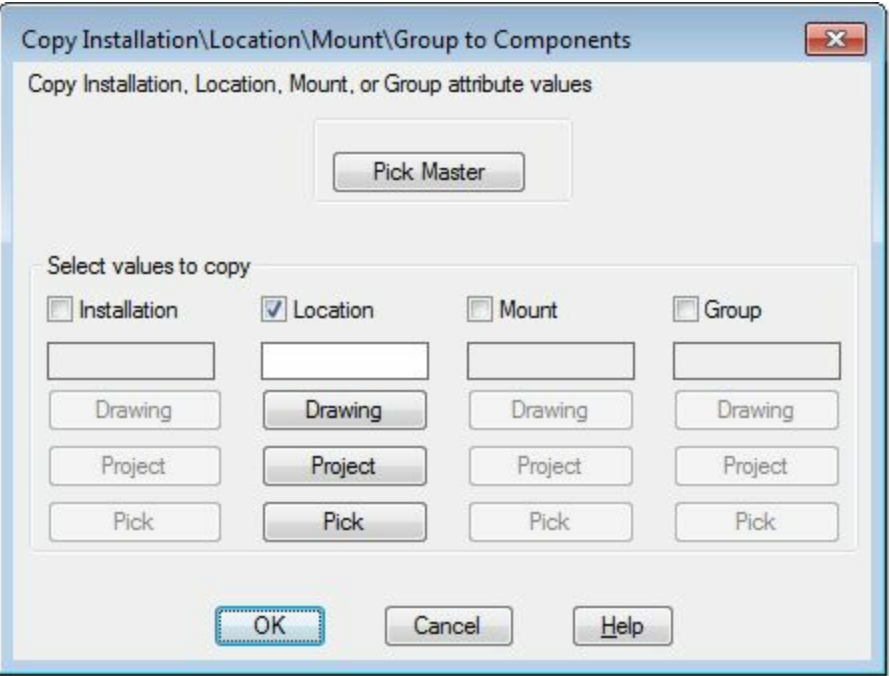

Figure-43. Copy Installation Location Mount Group to Components dialog box
- Click on the **Copy Location Code** tool from the **Copy Codes** drop-down. The **Copy Installation\Location\Mount\Group to Components** dialog box will be displayed; refer to Figure-43.